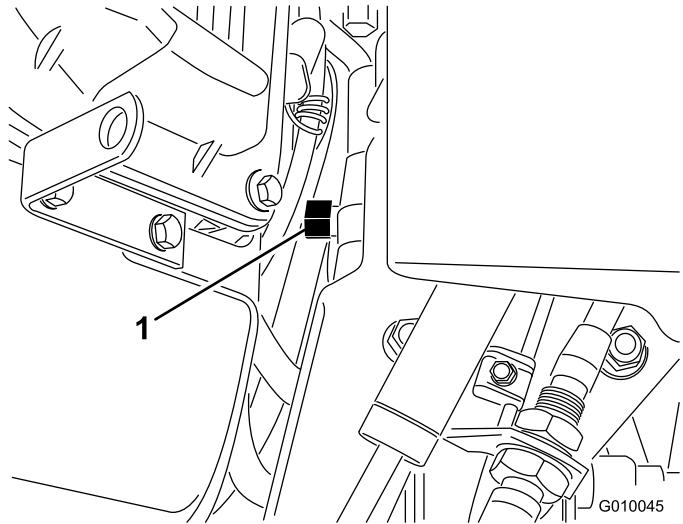

Figure 30
- Locate the by-pass valve between the engine and hydrostatic pump (Figure 30).
- Using a 5/8 inch wrench, rotate the by-pass valve counterclockwise 1 turn. This allows the hydraulic fluid to by-pass the pump enabling the wheels to turn (Figure 30).
- To operate the aerator again, rotate the by-pass valve clockwise 1 turn (Figure 30).